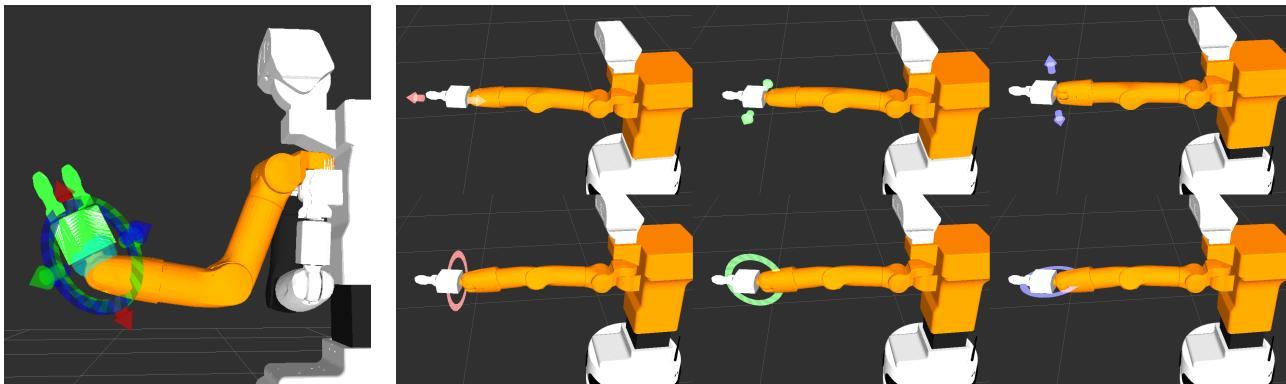

Figure 130: End-effector tool (left) and the usage of each DoF (right)
6. The GUI also allows the operator to define goal poses using the “flying end-effector” method. As shown in figure 130, the 6 DoF pose of the end-effector can be defined by using the visual marker attached. The red, green and blue arrows define the translation of x, y and z coordinates respectively, and the colored rings define the rotation around these axes following the same logic.